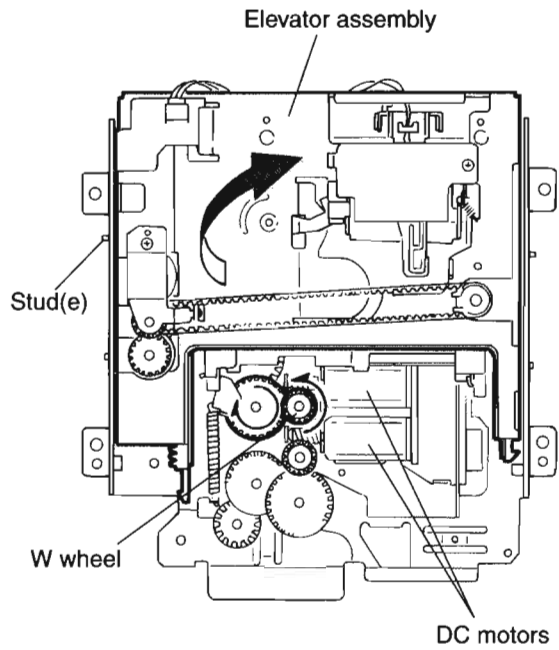
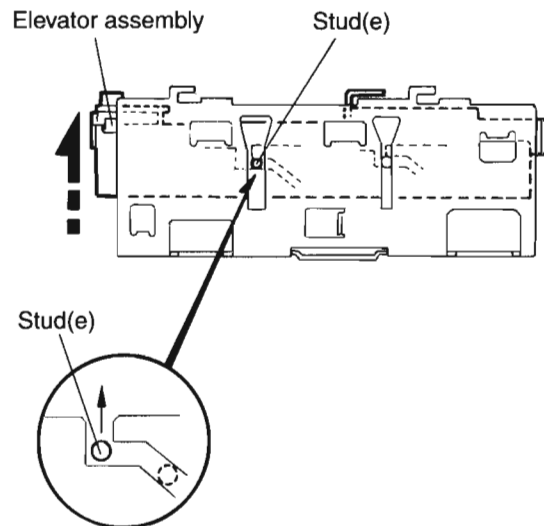

Fig.7
Fig.8
■ Removing the Elevator assembly (see Fig.7 and 8)
2. Turn the W wheel in the direction of the arrow to raise the Elevator assembly(see Fig.7) and allow Stud(e) to reach the top of the groove(see Fig.8).